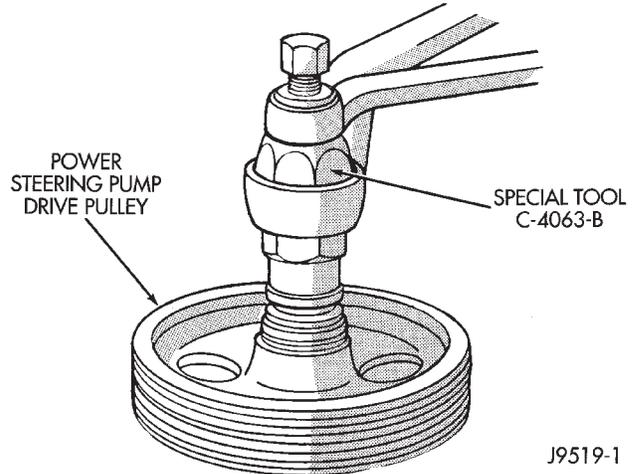

Fig. 6 Pulley Installation
- (1) Replace pulley if bent, cracked, or loose.
- (2) Install pulley on pump with Installer C-4063-B (Fig. 6) flush with the end of the shaft. Ensure the tool and pulley remain aligned with the pump shaft.